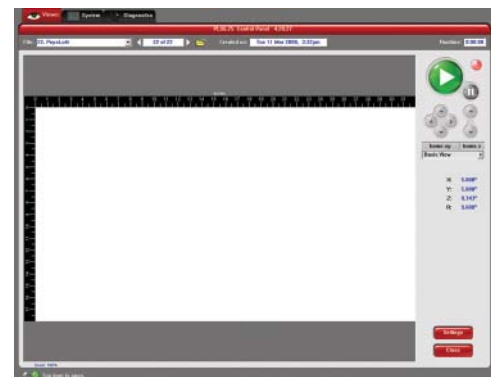

Figure 6
8. Click on the ILS system icon on the taskbar and the current print job will appear in the Viewer Tab of the Universal Control Panel (Figure 6).
4. Click the green START button on the UCP to begin laser processing (Figure 6 on previous page).